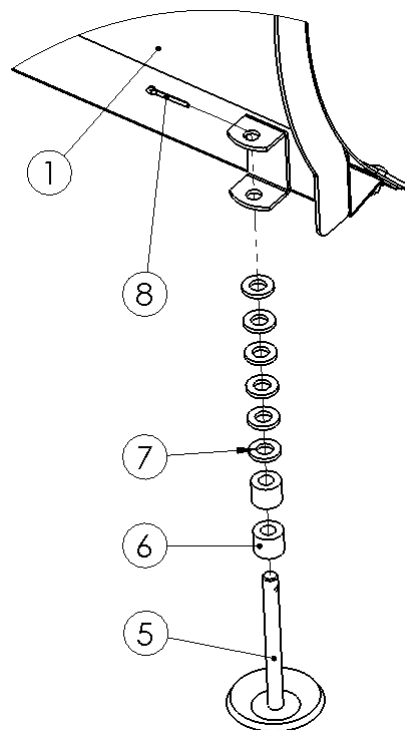

Figure 4
4) Install the Skid Feet with Rubber Bushings and 5/8" Flat Washers as shown in Figure 4. The height of the Skid Feet can be adjusted based on the location of the Rubber Bushings and 5/8" Flat Washers.